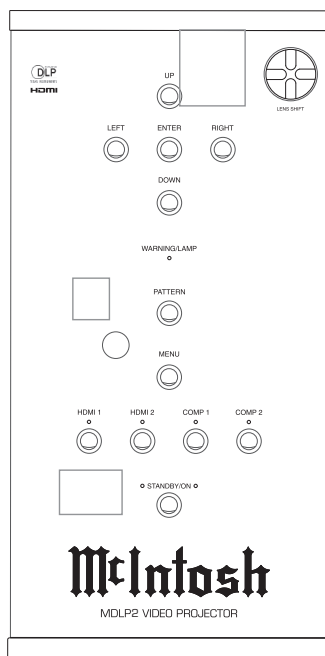

Figure 3
3. The Red LED to the left of the STANDBY/ON Push-button lights to indicate the MDLP2 is in Standby mode. To Switch ON the MDLP2, press the STANDBY/ON Push-button on the Projector Control Panel or the PROJector ON Push-button using the Remote Control. The Green LED to the right of the STANDBY/ON Push-button lights to indicate the MDLP2 is ON. Refer to figures 3 and 4.
4. Press the PATTERN Push-button on the Control Panel or the Remote Control. Refer to figures 3 and 4.
8. Using the LENS SHIFT Control, located on the Top Control Panel, center the image vertically on the screen. Refer to figures 3, 8 and 9.